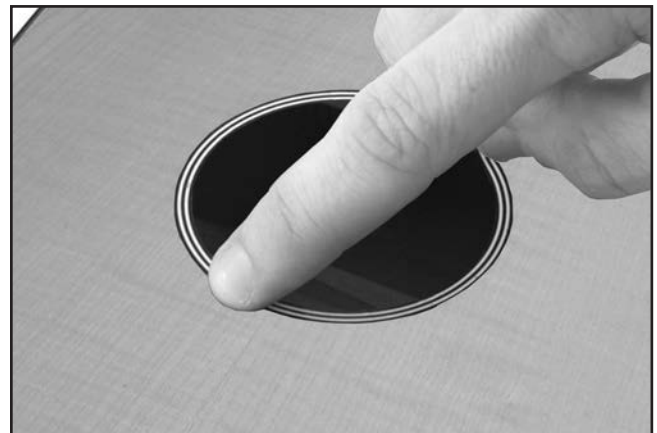

Figure 25. Pressing decal flat to body.
4. Lightly press down on decal with dampened fingers and slowly slide decal sheet from underneath decal (see **Figure 25**).